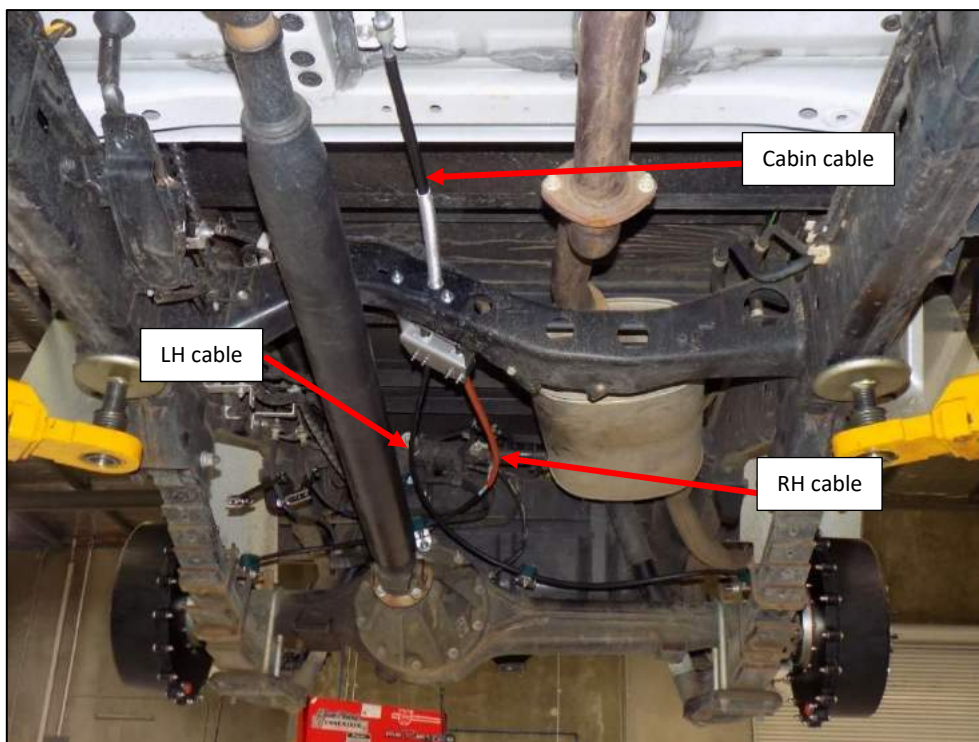

Figure 42 Below View
33. The completed park-brake cable layout should look like the figures below (Figure 42 & 44).